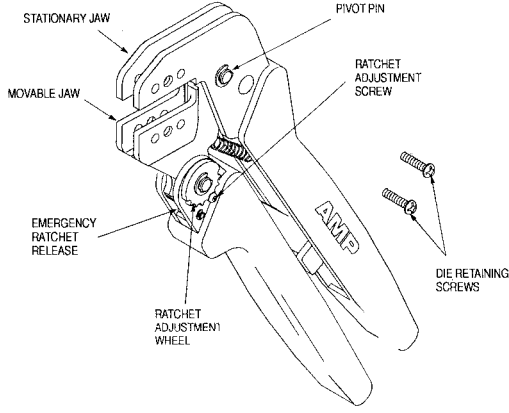

Figure 1
- Added plastic bushing, brass tube, and step-down ferrule to Figure 1.
2. DESCRIPTION (Figure 1)